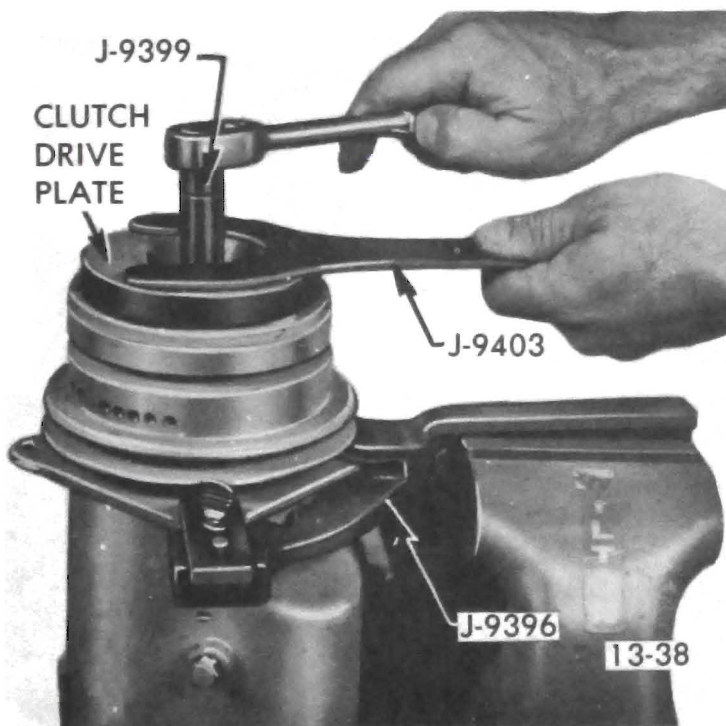

Figure 13-23 Removing or Installing Shaft Nut
1. Firmly clamp holding fixture (J-9396) in a vise and attach compressor assembly to fixture (see Figure 13-23).